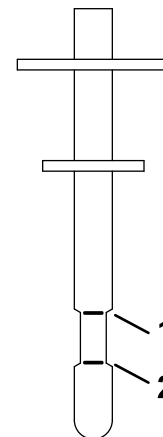

Figure 62
7. Place the dipstick into the filler neck, remove it, and check the fluid level (Figure 62).